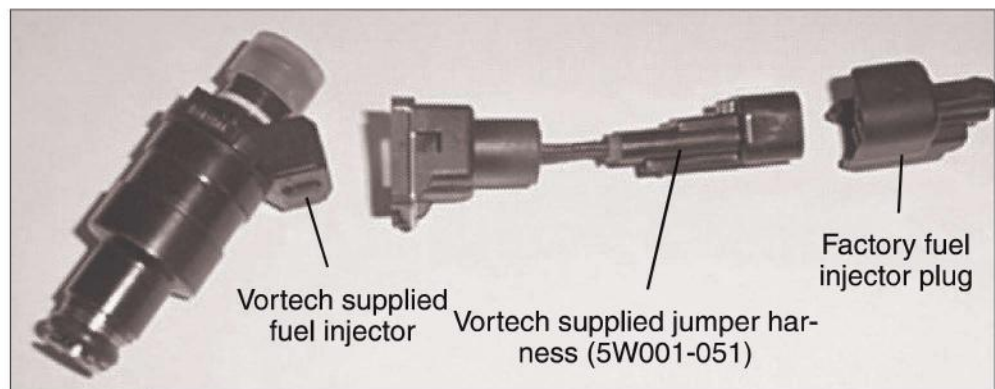

Fig. 5-a
- B. Disconnect the eight (8) fuel injector wiring clips and retainers from the fuel injectors. Release any residual fuel pressure from the rail by opening the schrader valve on the rail. Have a fire extinguisher nearby and use extreme caution.
- C. Remove the bolts holding down the factory fuel rail onto the intake manifold. Lift up on to the rails evenly, removing all eight (8) injectors.
- H. Use supplied jumper harnesses to connect the factory fuel injector plug to the newly installed fuel injectors (see Fig. 5-a).